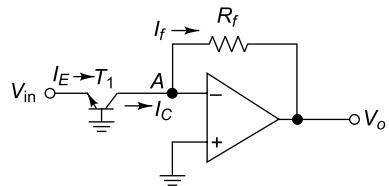

Fig. 5.95
33. Compute the output voltage V_o of an antilog amplifier using OP-AMP and transistor as shown in Fig. 5.95. Assume $V_{in} = 200 \text{ mV}$, $R_f = 10 \text{ k}\Omega$, $\tau = 1$, $V_T = 20 \text{ mV}$ and $I_o = 10^{-13} \text{ A}$